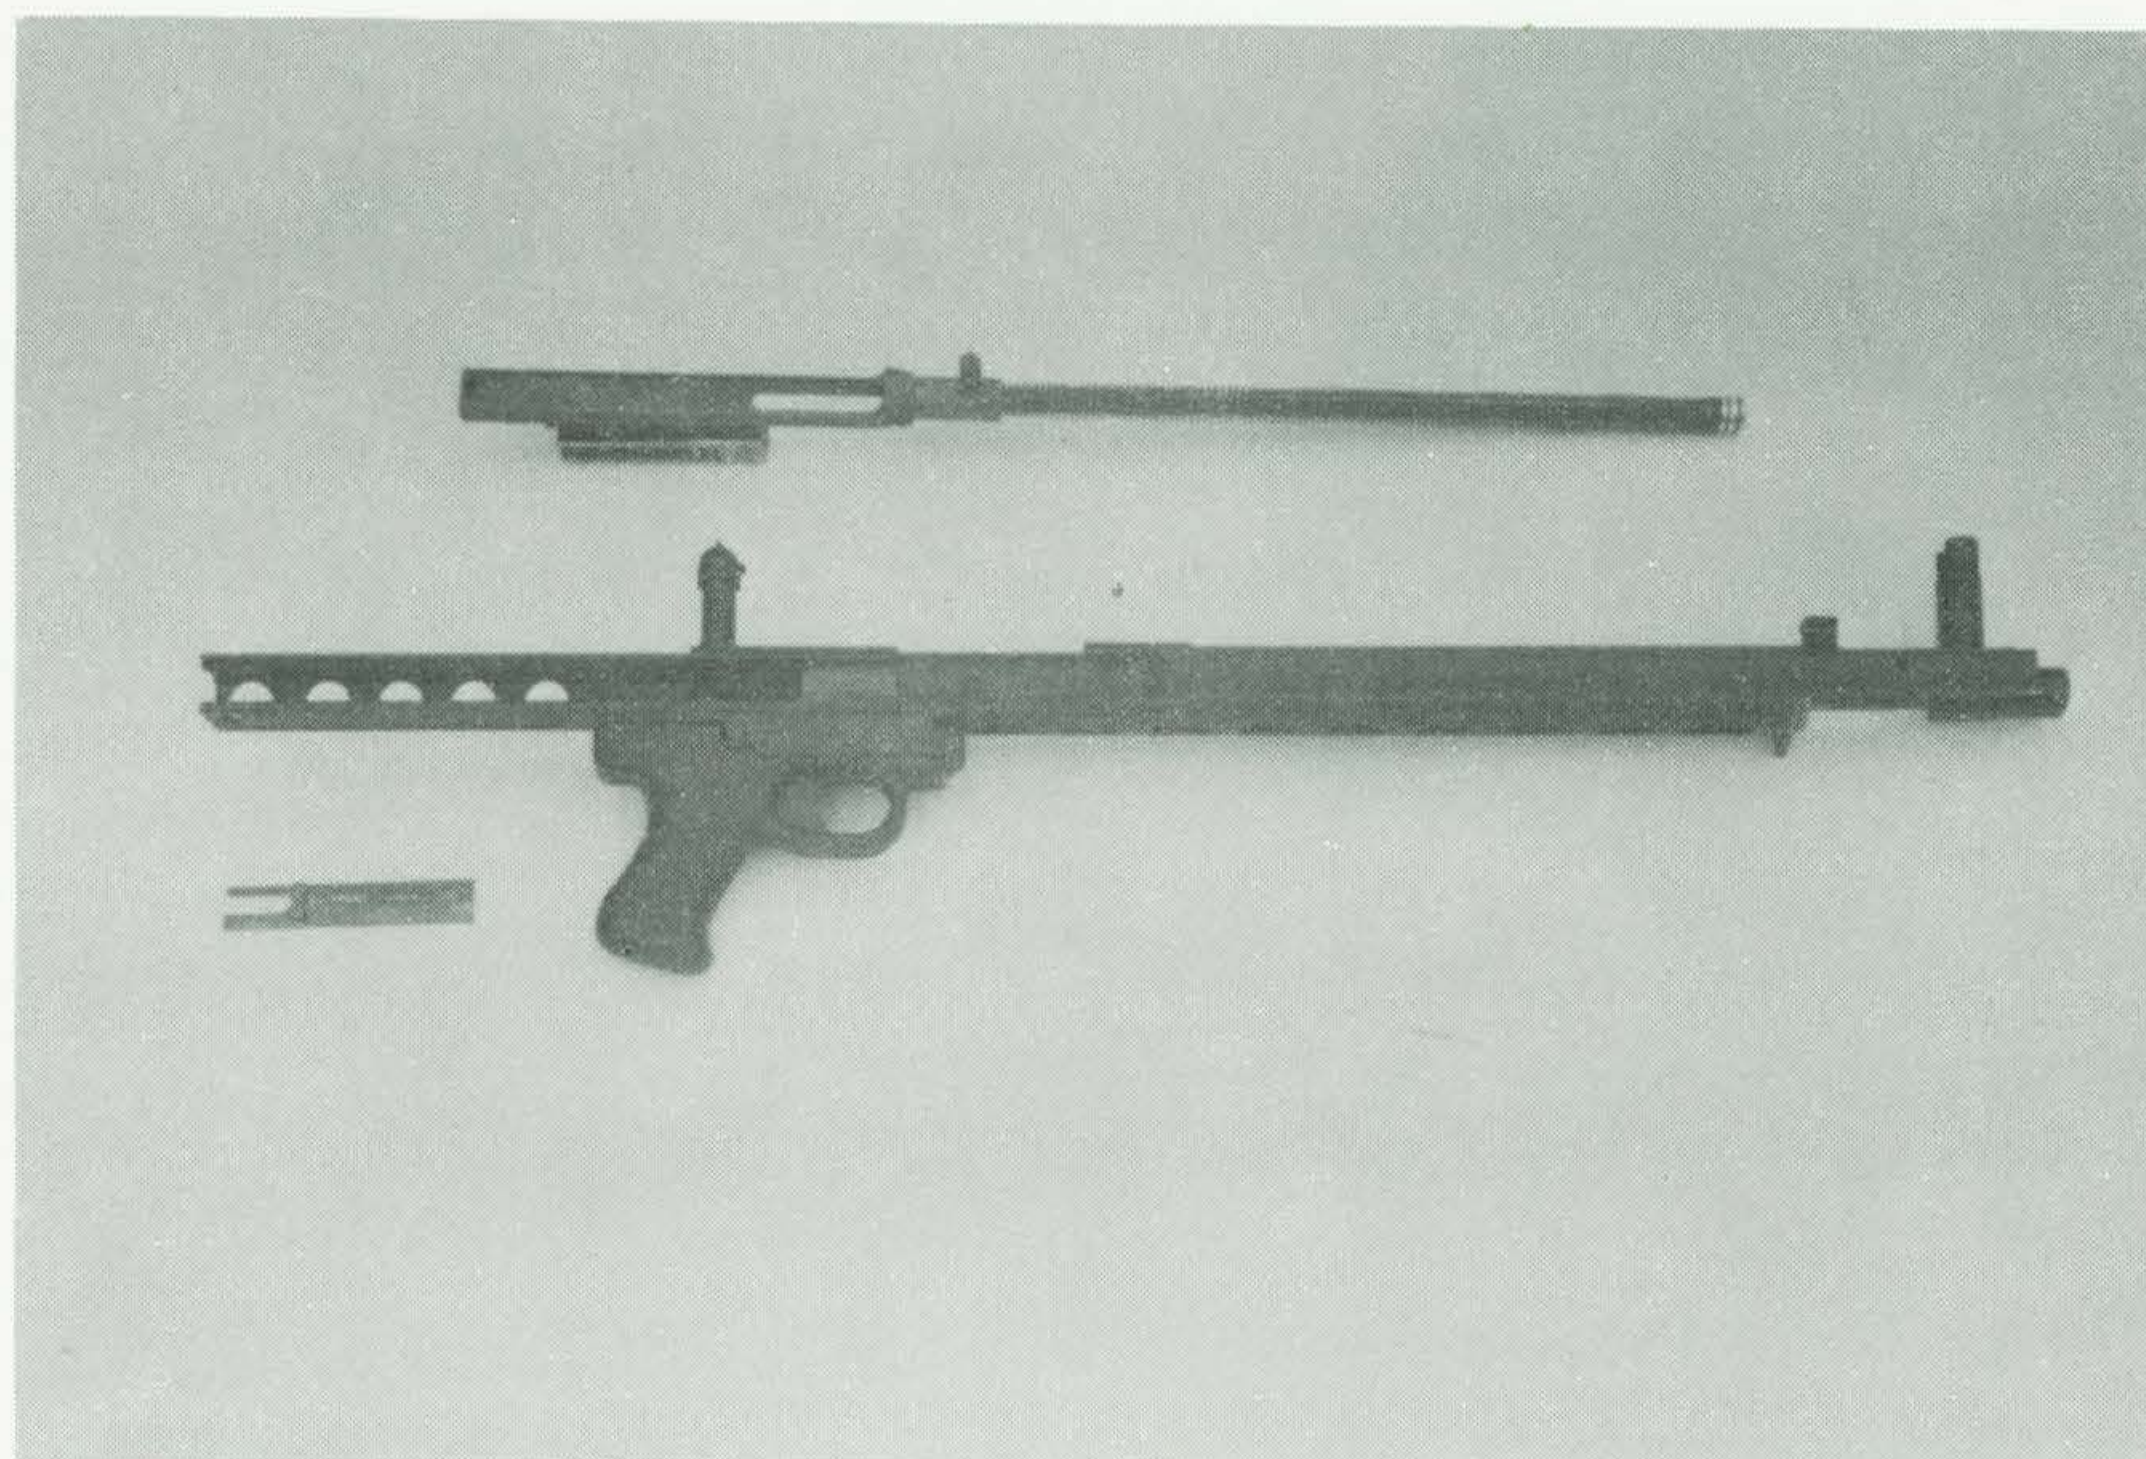

FIGURE 14. OPERATING SLIDE GROUP WITHDRAWN
b) Withdraw operating slide assembly, bolt and locking wedge by sliding rearward (Figure 14).